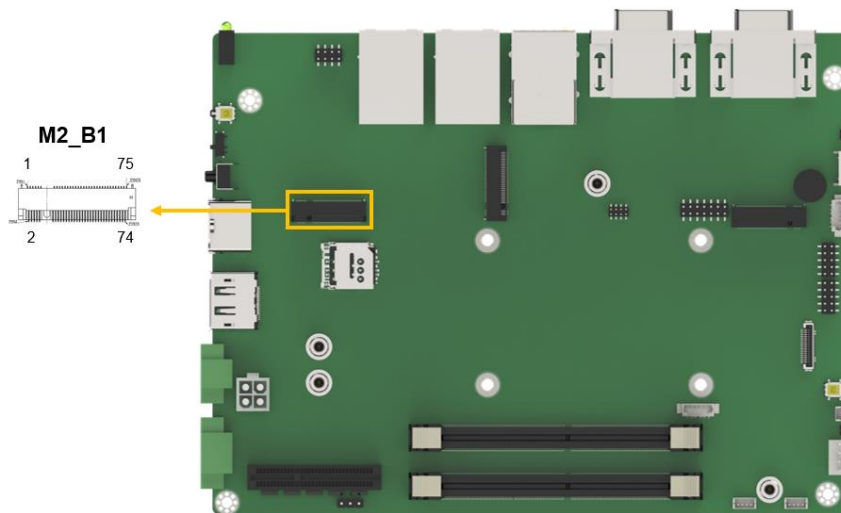

Figure 4-9: M.2 B-key Slot Location
- CN Location:** See **Figure 4-9**